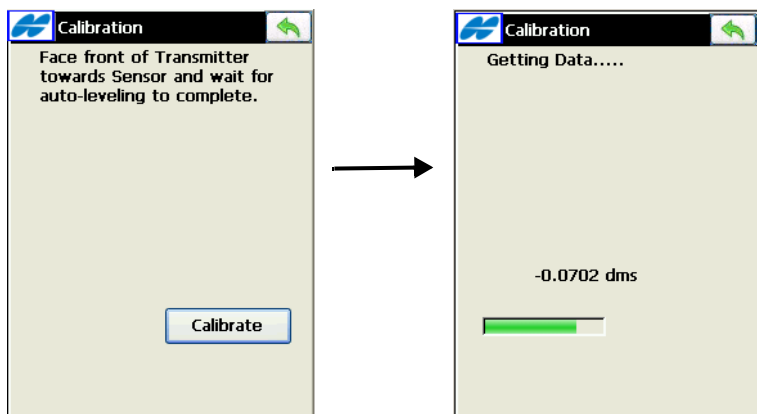

Figure A-15. Begin Field Calibration
7. Tap **Calibrate** after the auto-levelling process completes (Figure A-15).